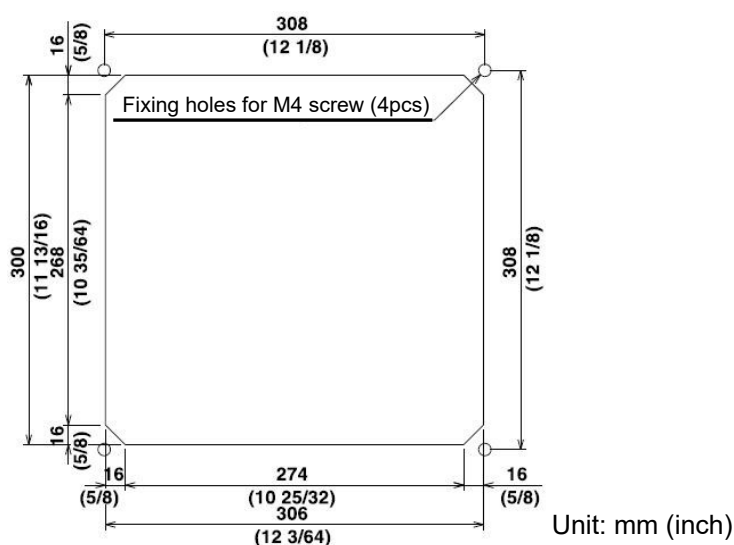

Fig. 5.2.4 Work of flush-mount installation hole
- (1) Make a square hole at the location to be installed. (See Fig. 5.2.4)
- (2) Turn counter-clockwise the knob bolt fixing the display unit to the mounting bracket to loosen it, push the unit to the left side and pull the unit upward. The mounting bracket and knob bolt are not used.
- (3) Remove four plastic screw covers, which are fitted on each corner of the display front face.
- (4) Confirm that the unit matches with the square holes. If not matched, correct the square hole.
- (5) Connect the connectors for power and transducer to the unit respectively.
- (6) Install the display unit in the installing location (square hole) and fix it with four 4mm tapping screws (or M4 pan-head). (Prepare 4mm screws suitable for thickness of installing location.)
- (7) Refit the coverings removed in step (3).